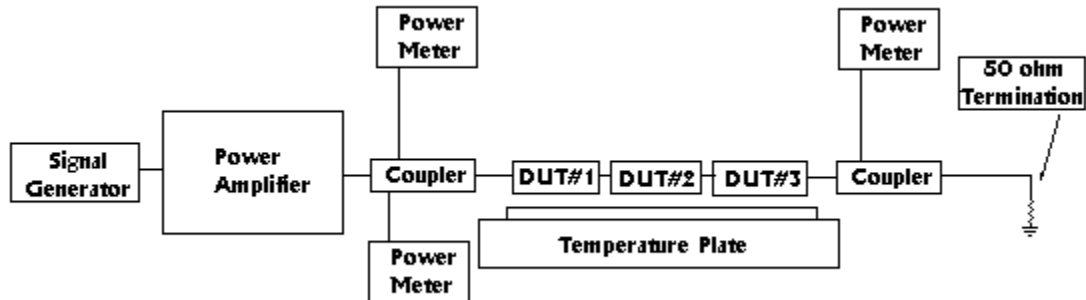

Figure 3 Life Test Schematic
Each unit will be subjected to high power testing as defined in paragraph 5.4.7 and shown in figure 3. The unit shall dwell for a minimum of one (1) hour @ the components rated input power.
Submit Group VI samples to life testing. Three (3) units shall be connected in series with a 150 watts Fc signal applied @ the input of the DUT for a duration of 96 hours. A base plate temperature of 100°C shall be achieved with the use a temperature plate. See figure 3 for life testing schematic.
5.2.3 The Life test set-up for paragraph 4.6.1 shall be configured as depicted in Figure 3.